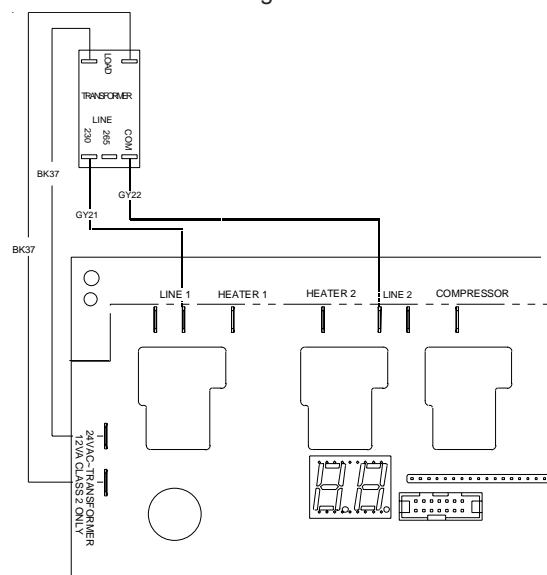

Figure 4
14. Using the insulated terminals connect the two (2) Black 37 wires from the Load terminals on the transformer to the "24VAC Transformer" terminals on the control board. See Figure 4.